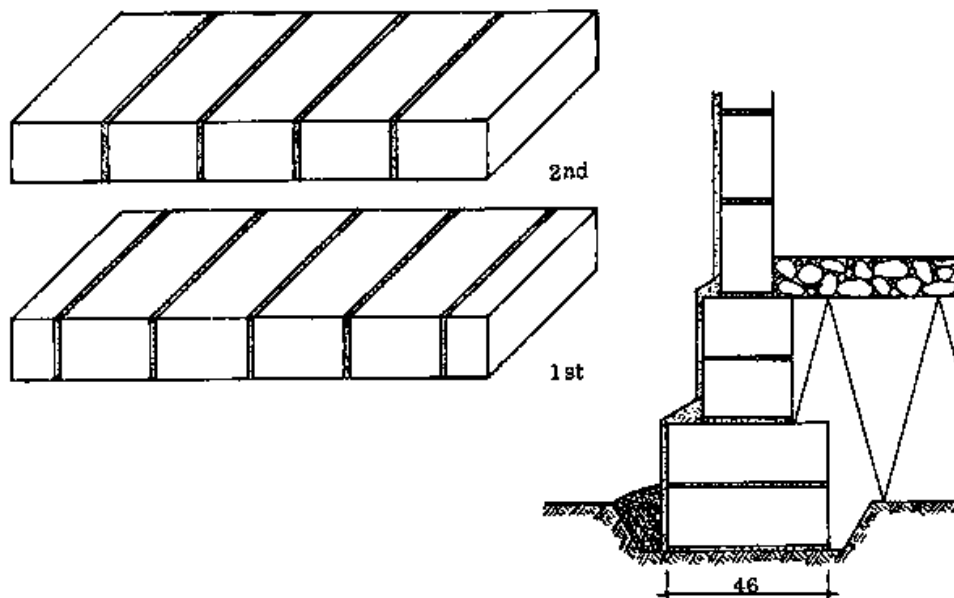

Fig. 2 SANDCRETE BLOCK FOUNDATION
- SANDCRETE BLOCK FOUNDATIONS: In an area where there is a lot of sand available but no broken stones, gravel or laterite rock, etc., one may be forced to use sandcrete blocks to build the foundations. The mix proportion for these blocks should be no less than 1:8, and the blocks themselves should be laid in header bond, as seen in Fig. 2.